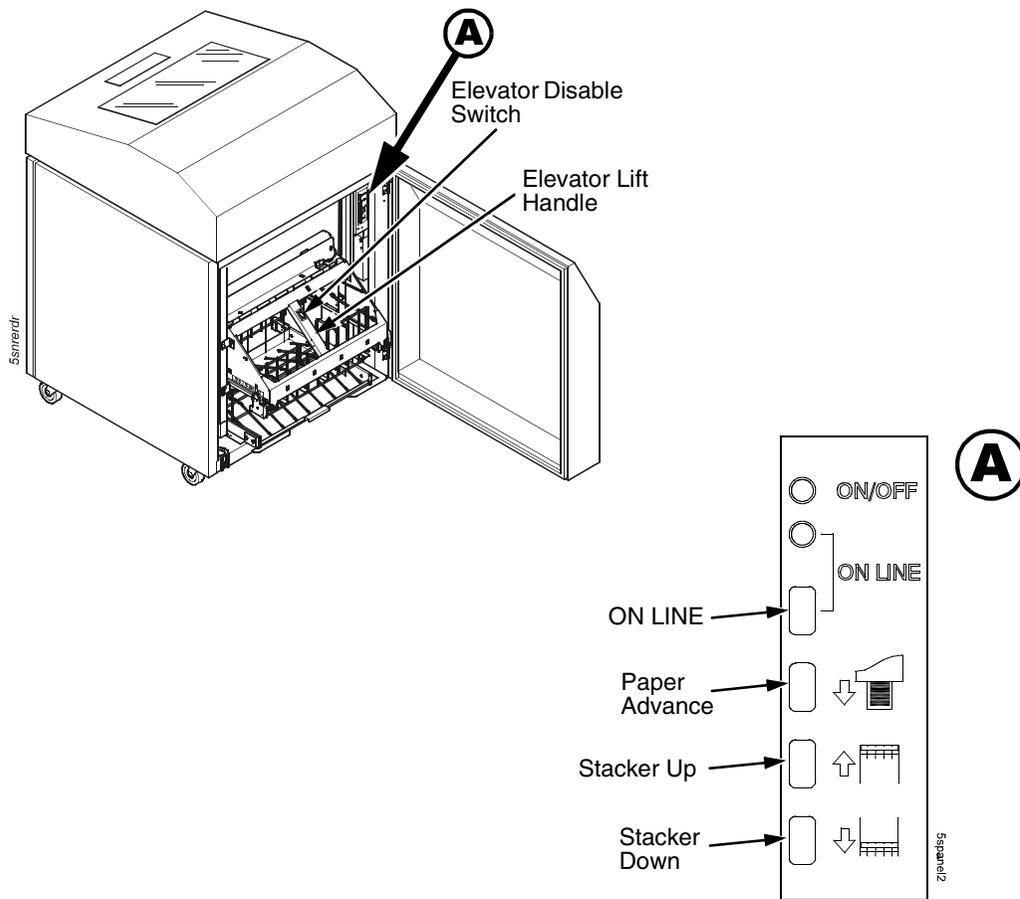

Figure 66. The Rear Control Panel
2. Using the rear control panel, press the ON LINE key to take the printer offline. (Figure 66.)
3. Press the elevator disable switch, grasp the elevator lift handle, and raise the elevator to the top of its travel. (Figure 66.)